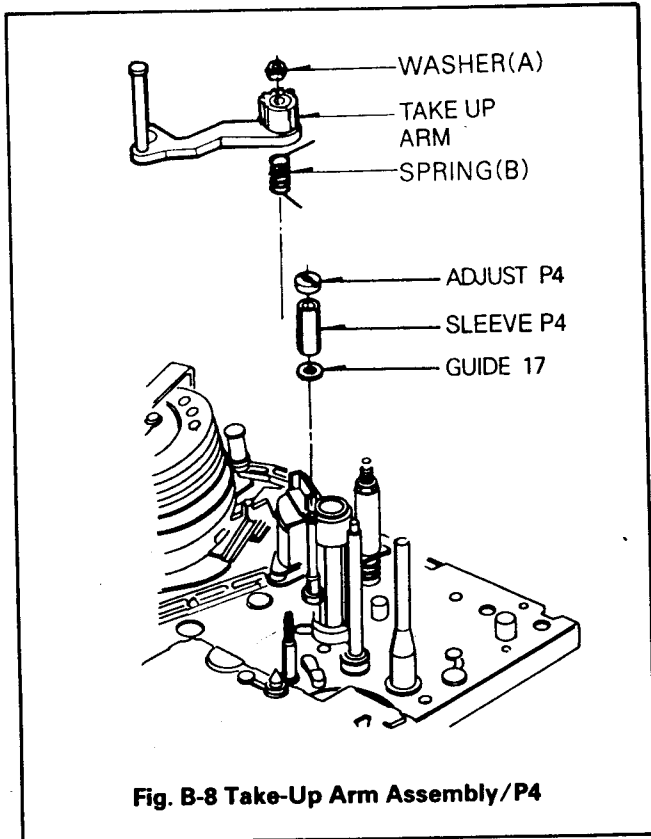

Fig. B-8 Take-Up Arm Assembly/P4
8. Take Up Arm Assembly(Fig. B-8)
9. P4 Assembly(Fig. B-8)